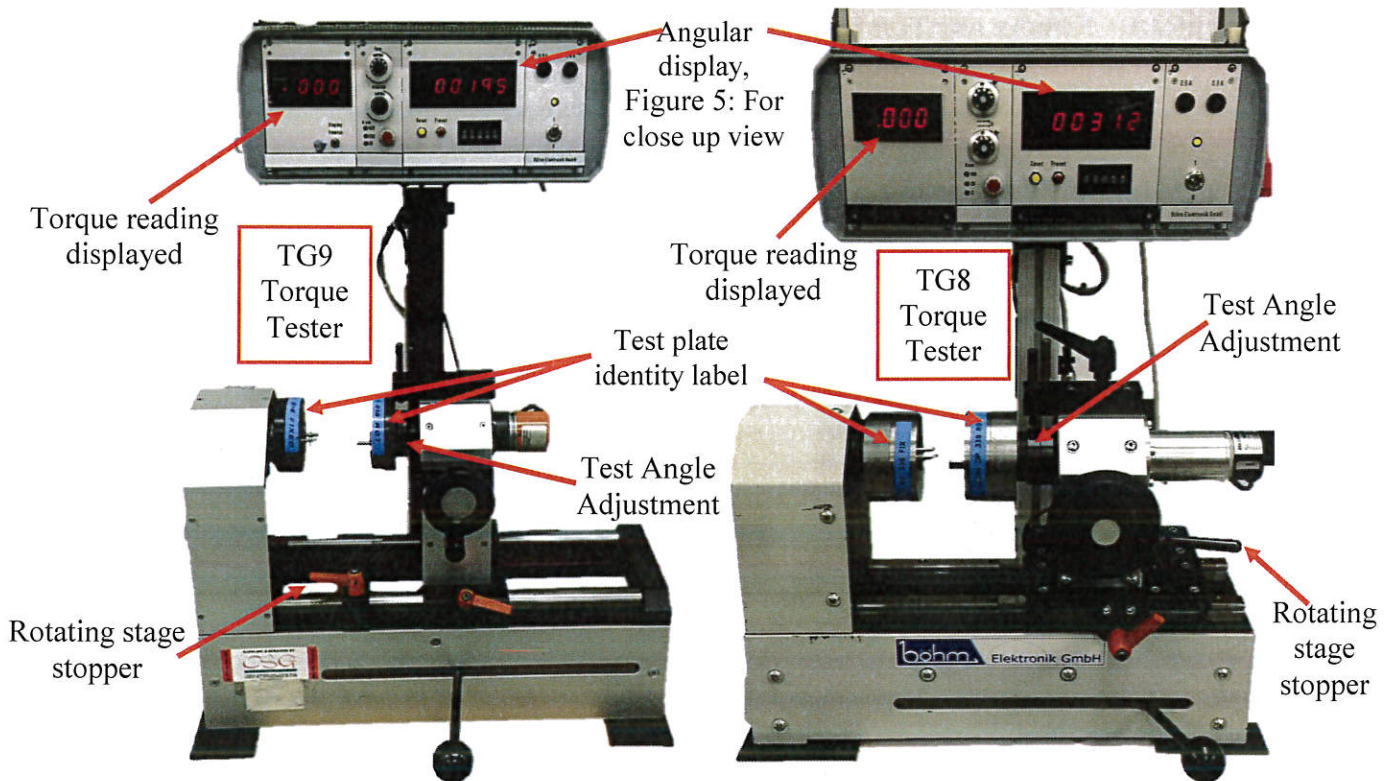
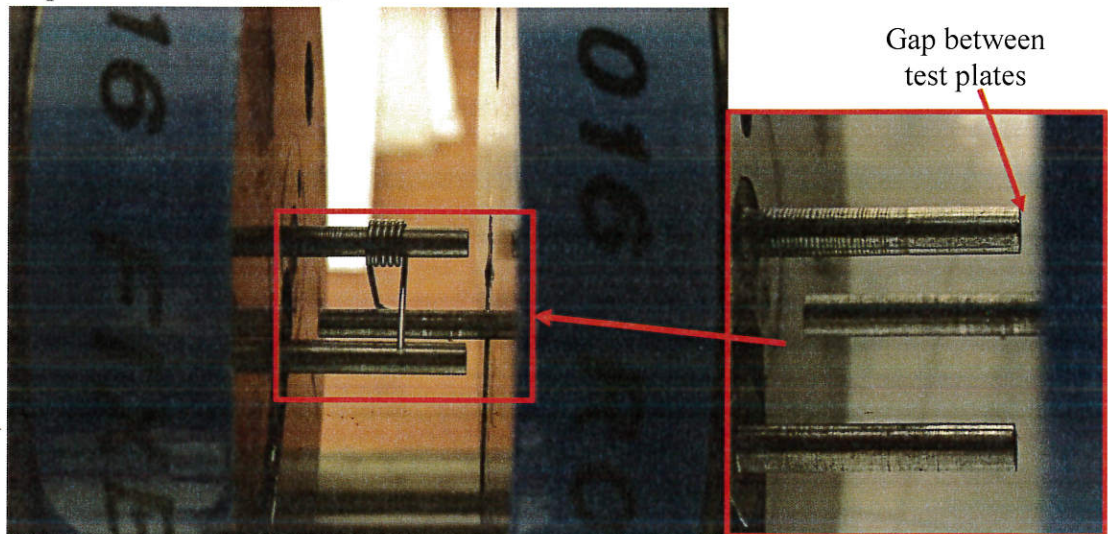

Figure 1: Böhm TG9 And TG8 Torque Testers.
Figure 3: Example of the size of gap between the test plates. Zoomed in view.
6.2. Ensure Correct Test Plates are Fitted. With reference to the Works Order Instructions for the components to be tested, ensure that the required test plates, identified by the 'Test plate identity label' as shown in Figure 1: are fitted to the torque tester, if the correct test plates are fitted proceed to step 6.3 to ensure that the setup is correct, if the test plates require changing continue with the steps detailed below.
6.2.2. **Source Replacement Test Plates.** Source the tests plates identified on the Works Order Instruction for the components to be tested, the test plates are identified by the labels shown in Figure 1:
6.3.1. **Adjusting Gap Between Test Plates.** Slide the rotating stage so that it is close to but not touching the stationary stage, as shown in the example in Figure 3: set the gap by use of the Rotating stage stoppers identified in Figure 1: